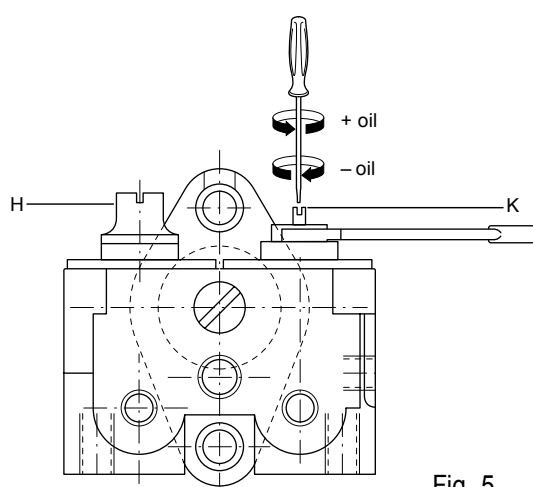

Fig. 5
- Take off the protection caps "H" of fig. 5
- With a short screw driver and spanner screw or unscrew the plug "K" of Fig. 5.